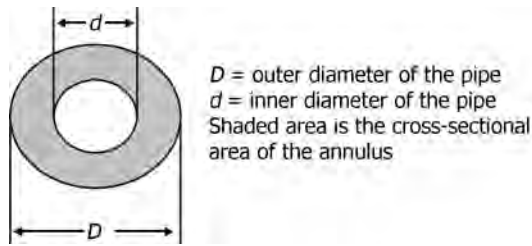

FIGURE 2.4 Equivalent diameter for annulus.
- Figure 2.4 shows annulus of a concentric double pipe.